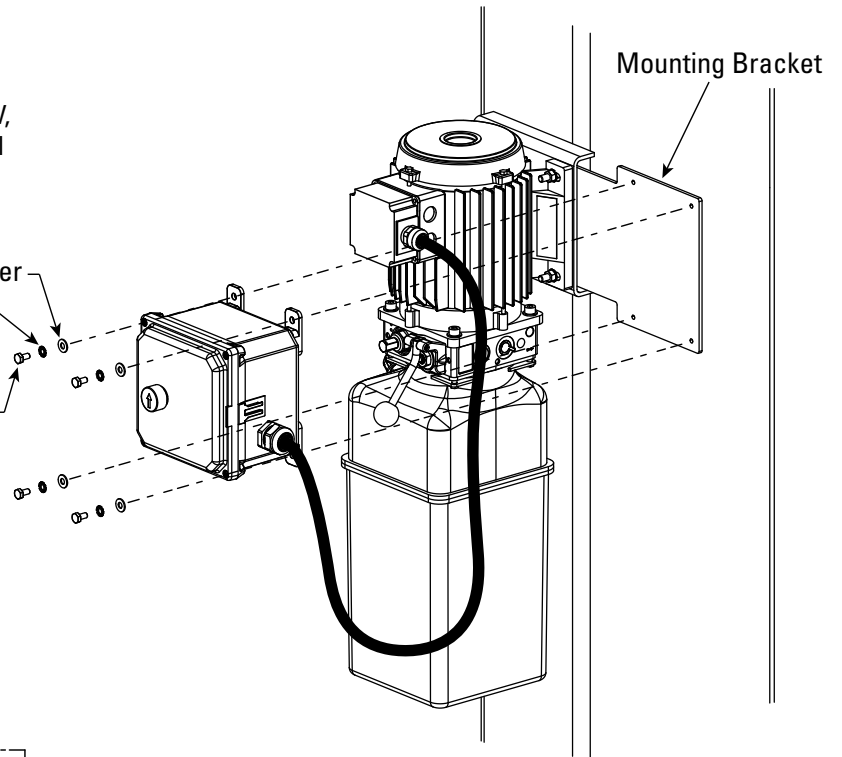

Fig. 16a
- A) Attach Mounting Bracket on column as shown in Fig. 16a using (2) 5/16" -18NC x 1-1/2" HHCS, (2) 5/16" -18NC Hex Nuts, and (2) 5/16" Ext. Tooth Washers, shown in Fig. 8a.
- B) Attach Control Box to Bracket using (4) 1/4" -20NC x 1/2" HHCS, (4) 1/4" Flat Washers, and (4) 1/4" Star Washers.